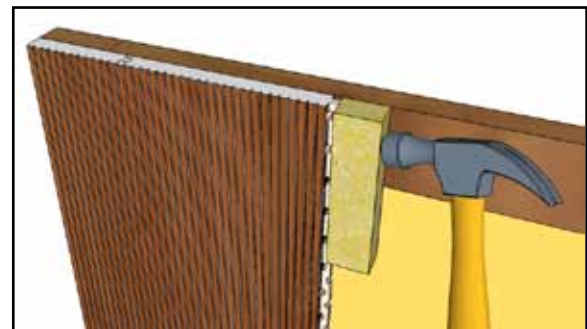

Figure 5
- Place next Alto plank and gently tap into place so that the groove is fully around the tongue of the previous plank and the holes line up from one plank to the next. (Figure 5)